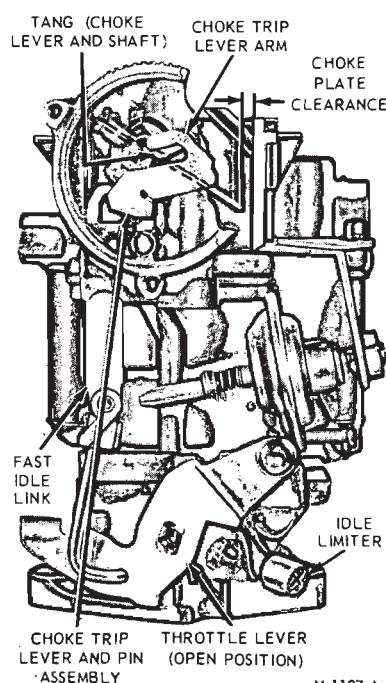

FIG. 4—Dechoke Clearance Adjustment—Carter Model YF 1-V
2. Hold the throttle plate fully open and close the choke plate as far as possible without forcing it. Use a drill of the proper diameter to check the clearance between the choke plate and air horn (Fig. 4).